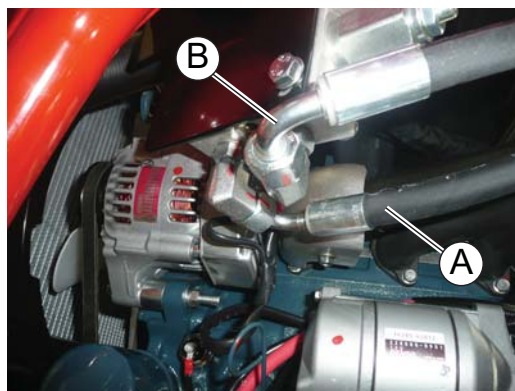

Figure 18
23. Install and secure these two hoses, connecting the bottom elbow on the wheel motor to the top left T-piece on the flushing valve and the top elbow on the wheel motor to the top right T-piece on the flushing valve. Secure the nylon sleeve with cable ties Figure 18.